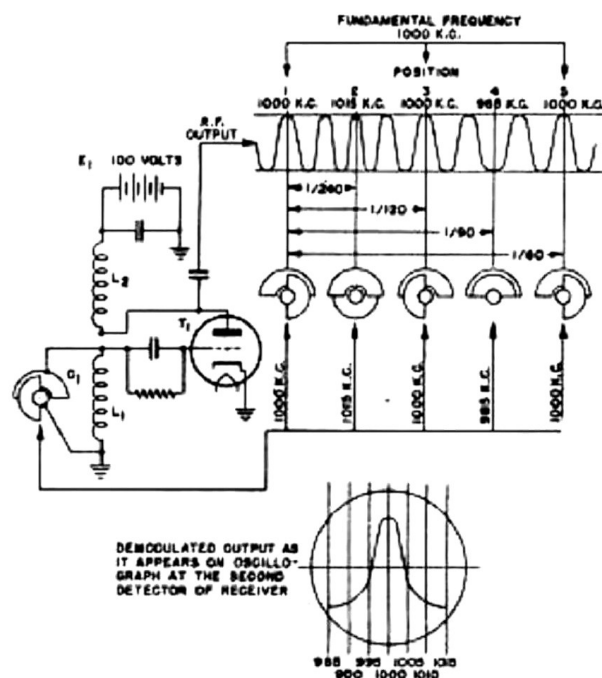

Figure 2.5 - Frequency Modulation
a. An illustration of the generation of frequency modulation is shown in Figure 2.5. The main characteristic of a frequency modulated signal is that the frequency is constantly changing while the output voltage remains constant. Starting at the fundamental frequency, the frequency gradually increases to its maximum, decreases through the fundamental to its minimum and then returns to the fundamental frequency, completing the cycle. The maximum and minimum frequencies are determined by the bandwidth of the f-m oscillator. In the illustrated case, the bandwidth is 15 kc either side of the fundamental 1000 kc. In the Universal Crystal Controlled Signal Generators the bandwidth may be either 0-30 kc, 0-150 kc or 0-450 kc. The rate at which the cycle is completed may also be variable. In these models the rate is either 60 or 400 cycles.
citor of the circuit given in Figure 2.5. The control of the band width of frequency modulation is the potentiometer R26. In the case of the narrow band f-m oscillator (1 mc), the sweep may be varied from 0-30 kc, utilizing 60 cycle modulating frequency. When using the wide band f-m oscillator (50 mc) the sweep may be varied from 0-450 kc utilizing 60 cycle modulation or 0-150 kc utilizing 400 cycle modulation. The oscillator can also be externally modulated. The remaining section of the 6SN7, V3 is used as a mixer stage to heterodyne either the 1 mc or 50 mc frequency modulated signal with the signal from the main variable oscillator, V1, 6C4, thereby resulting in a variable frequency modulated output covering a range between 100 kc to 160 mc.